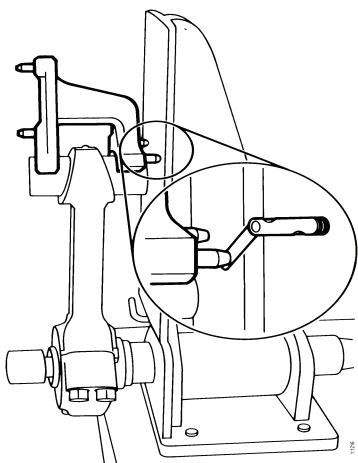

Figure 5-46
4. Place the gauge as shown in **Figure 5-46**. Use a feeler gauge to measure clearance between one gauge pin and the gauge surface to check connecting rod twist.